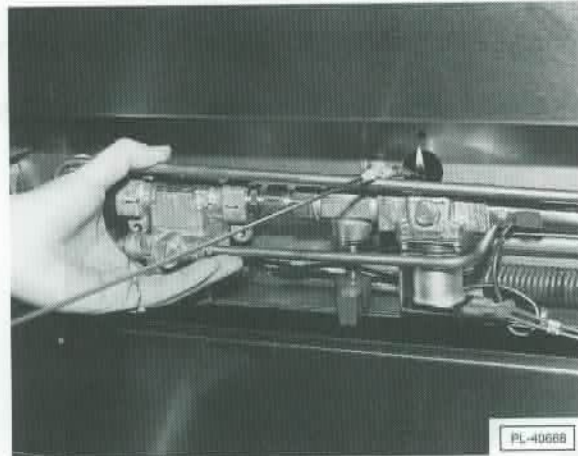

Fig. 16
3. Light oven pilot by depressing the reset button (Fig. 16) and, using a taper, ignite the pilot. Hold reset button in for 30 seconds or until pilot remains lit. Turn gas valve back ON.